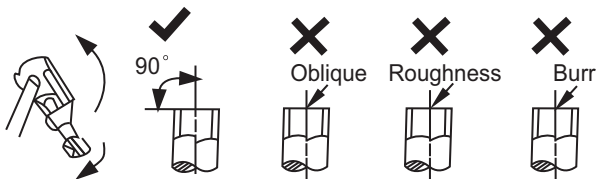

Fig. 26 — Pipe Cutting
- a. Cut the pipe, with a pipe cutter, at 90 degrees (see Fig. 26).